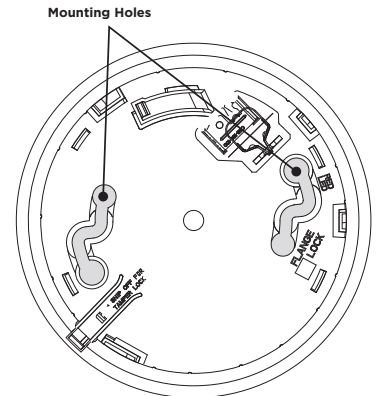

Figure 1: Mounting Hole Locations
1. Grasp the detector and twist counterclockwise to remove the detector from the mounting base. See Figure 1.